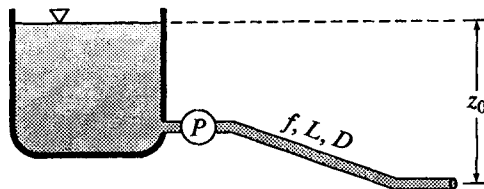

Figure P12.16
- 12.16 Figure P12.16 depicts a large reservoir being drained with a pipe system ( $f = 0.025$ ,  $L = 2000$  ft,  $D = 9$  in,  $z_0 = 45$  ft). The flow rate is 3.5 cfs when the pump is initially rotating at 180 rpm. If the pump speed is increased instantaneously to 220 rpm, determine the flow rate as a function of time. Assume that the head  $h_p$  developed by the pump is proportional to the square of the rotative speed; that is  $h_p \propto n^2$ .